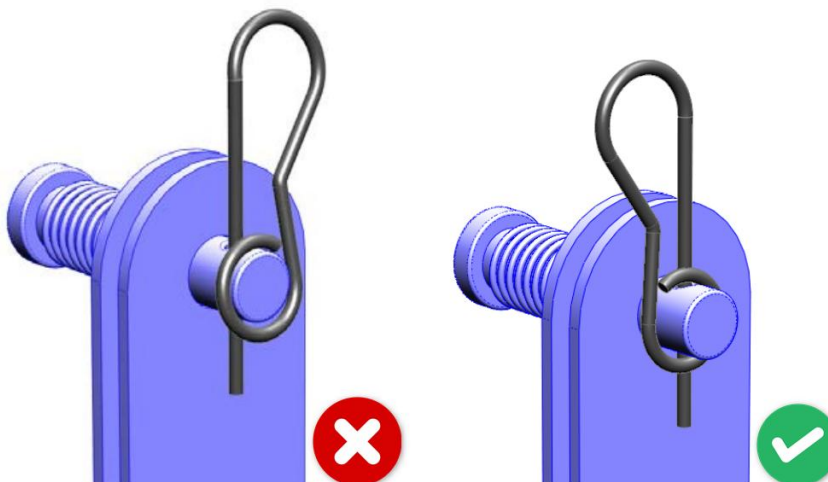

Fig. 13
9. To secure the pin correctly, apply the clip as shown in *Fig. 13*.